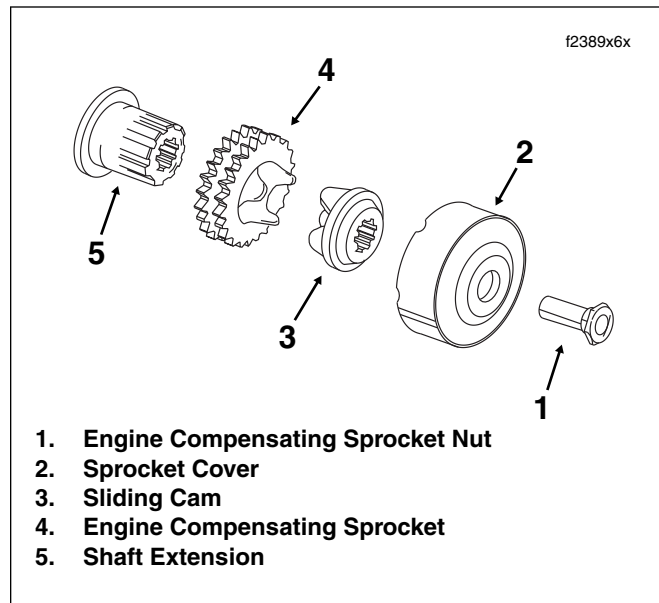

Figure 6-19. Engine Compensating Sprocket Assembly
14. Remove sprocket cover and sliding cam. See Figure 6-19.